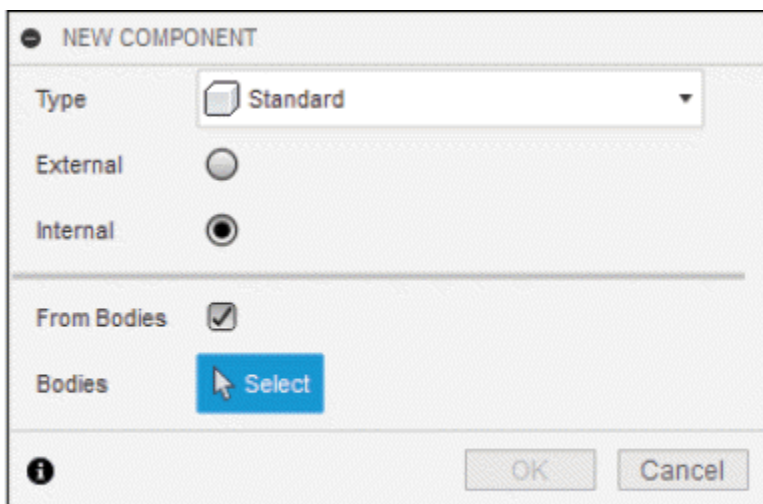

Figure-6. Updated NEW COMPONENT dialog box
- Select **From Bodies** check box from **NEW COMPONENT** dialog box to convert existing bodies into individual components. The updated **NEW COMPONENT** dialog box will be displayed; refer to Figure-6.